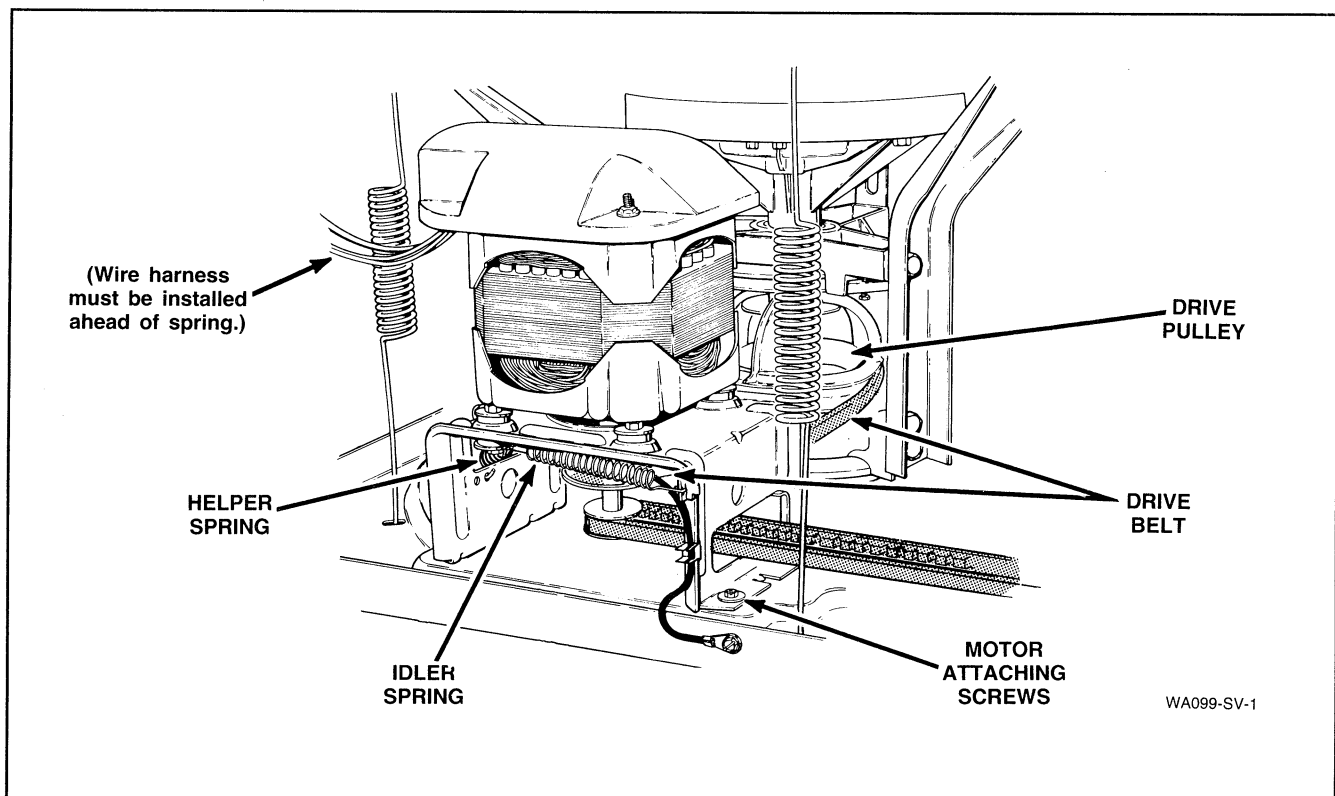

Figure 18
- f. While holding idler lever, reach in and around right side of motor and run belt off right side of large drive pulley, *Figure 18*.
NOTE: There is no belt adjustment after installing new drive belt. Check to be sure motor and mounting bracket had been shifted toward rear of washer to its limit of travel within the mounting bracket attaching screws. If the motor and mounting bracket must be repositioned, loosen the four motor attaching screws, *Figure 18*, and shift motor and mounting bracket toward rear of washer to its limit of travel. Retighten the four attaching screws, *Figure 18*.